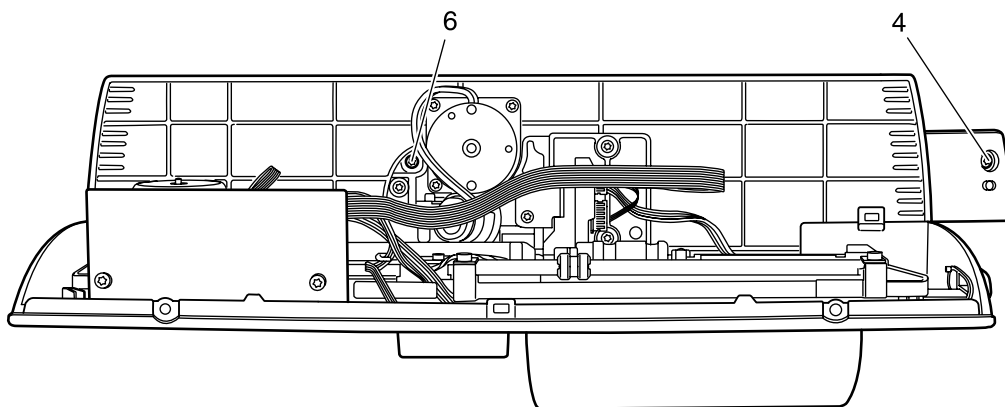

**Fig. 5**
8. Unscrew the Torx screw 6 and remove the swivelarm upper part 5 (Fig. 5).